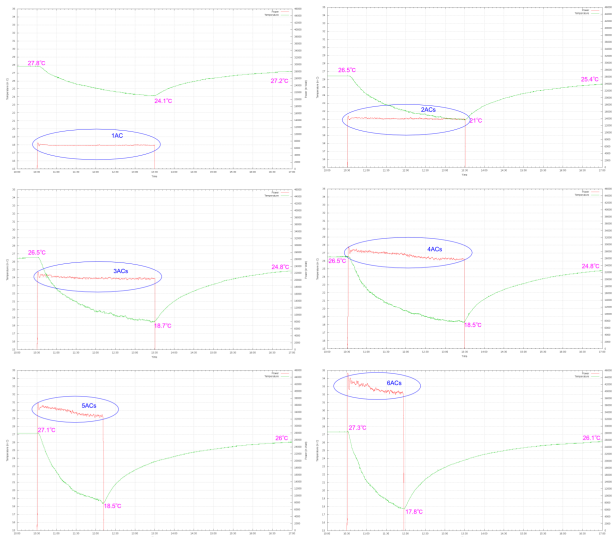

Figure 7 : Cooling by different number of ACs
- **Figure 7** clearly shows that cooling pattern is different with different number of air conditioning units turned ON